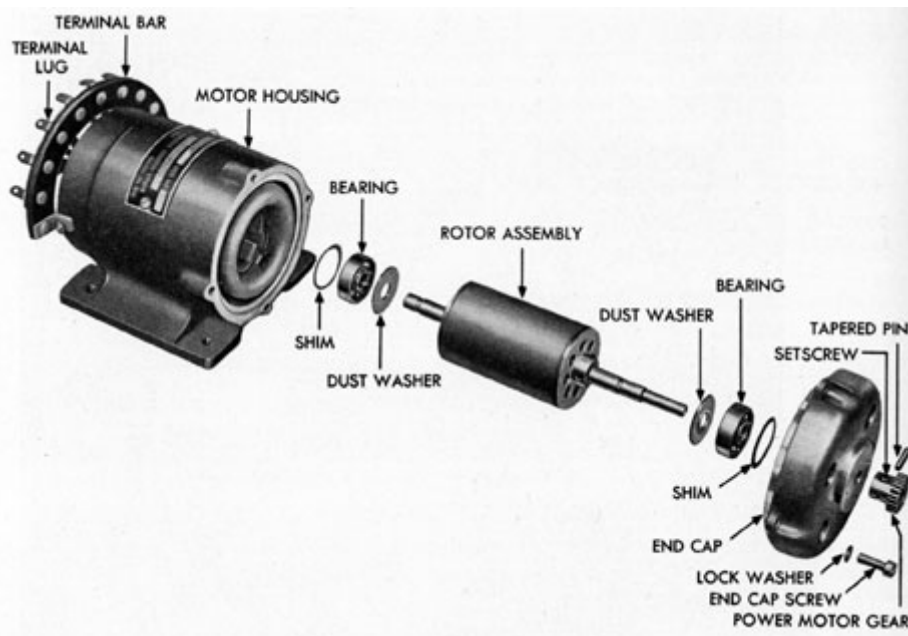

Figure 13-41. Power motor partially disassembled.
**13G22. Disassembly of the power motor.** (See Figure 13-41.)
**13G23. Assembly of the power motor.** (See Figure 13-41.) Place the shim in the front end of the motor housing. Place the dust washer and bearing on the upper end of the rotor shaft, with the shoulder of the dust washer facing the bearing. Insert the rotor assembly into the motor housing. Install the dust washer and bearing on the lower end of the rotor shaft in the same manner as described above. Place the shim in the end cap. Place the end cap over the lower end